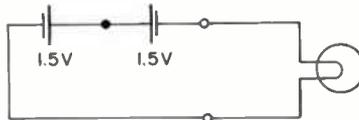

Fig. 26
10. For the cells connected as shown in Fig. 26,